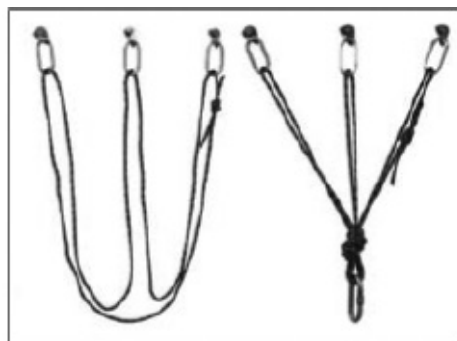

Figure 5-3. Construction of three-point, pre-equalized anchor with fixed artificial protection
- a. **Artificial Anchors.** Artificial anchors are made from manmade materials. The most common ones use traditional or fixed protection (Figure 5-3).